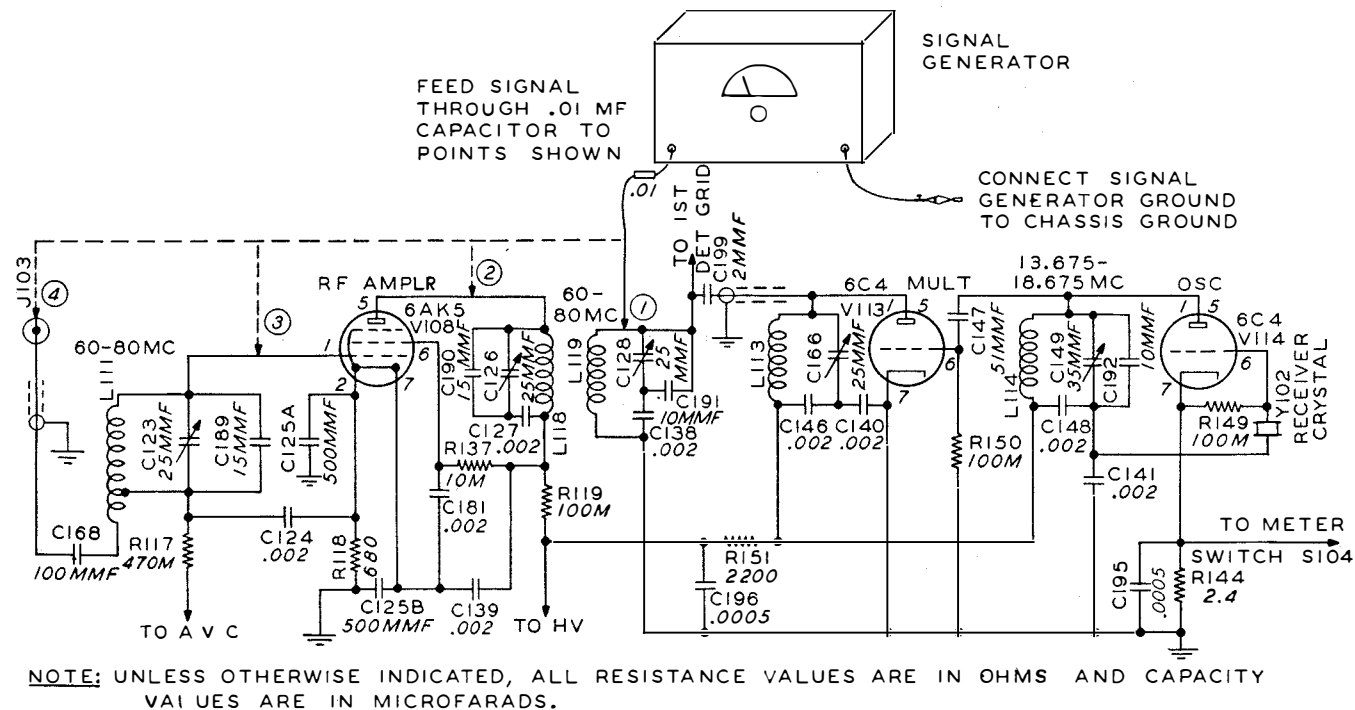

Figure 5-6—Trouble Locating in Receiver Multiplier and RF Stages
3. MULTIPLIER. (Refer to figure 5-6.)